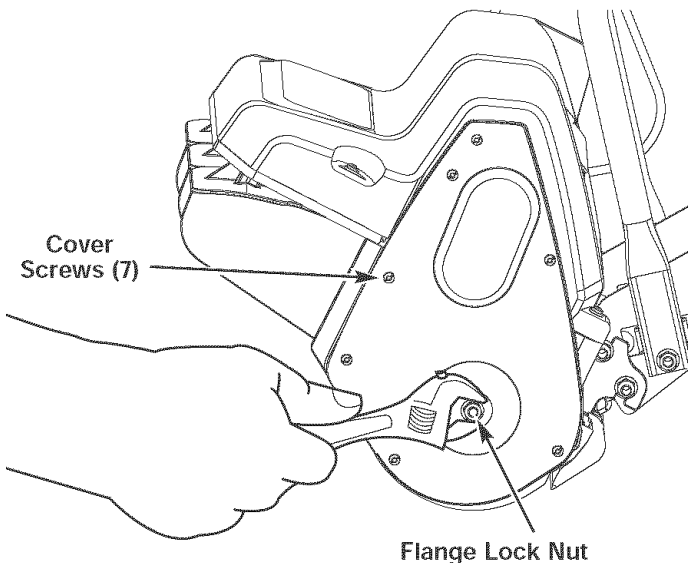

Fig. 9
1. Remove the flange lock nut from the belt case cover with a wrench or nut driver (Fig. 9).
2. Remove the seven (7) screws from the belt case cover using a #T20 Torx bit or flat blade screwdriver (Fig. 9).